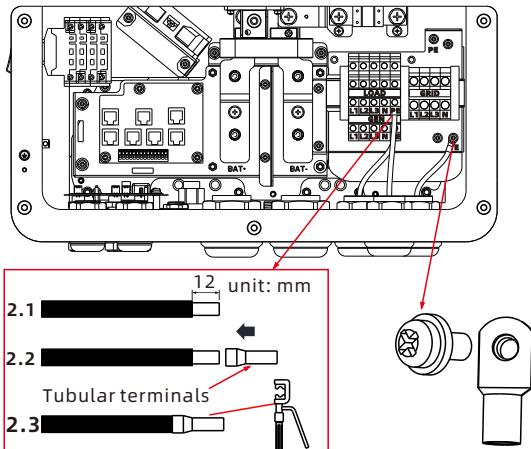

Fig 6.10 Grounding Schematic
- 2) Connect a ground cable to the copper grounding bar. Fig 6.10 shows the position of the grounding bar ;
- 1> Connect the ground cable before connecting the battery cable; the ground point is shown in Fig 6.10.